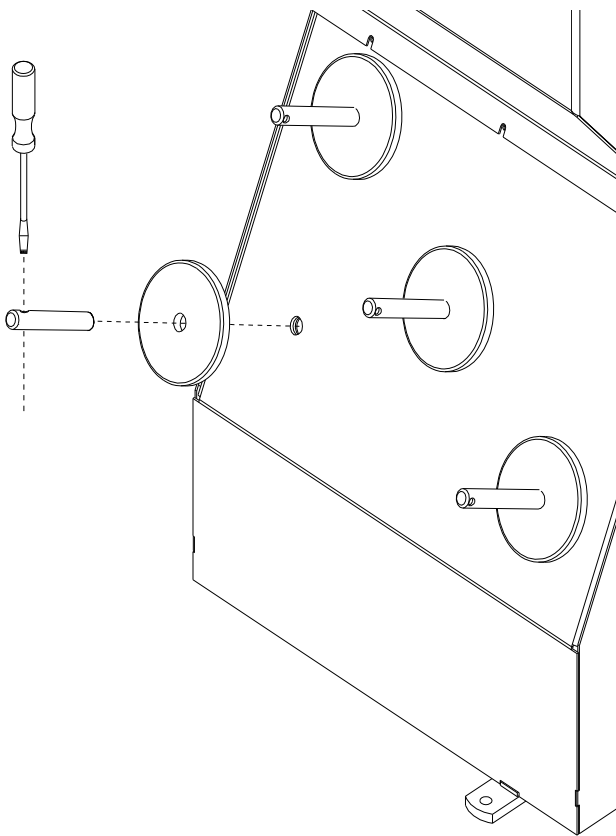

Figure 7
B. Install the 4 accessory pins (Figure 7). Tighten firmly.